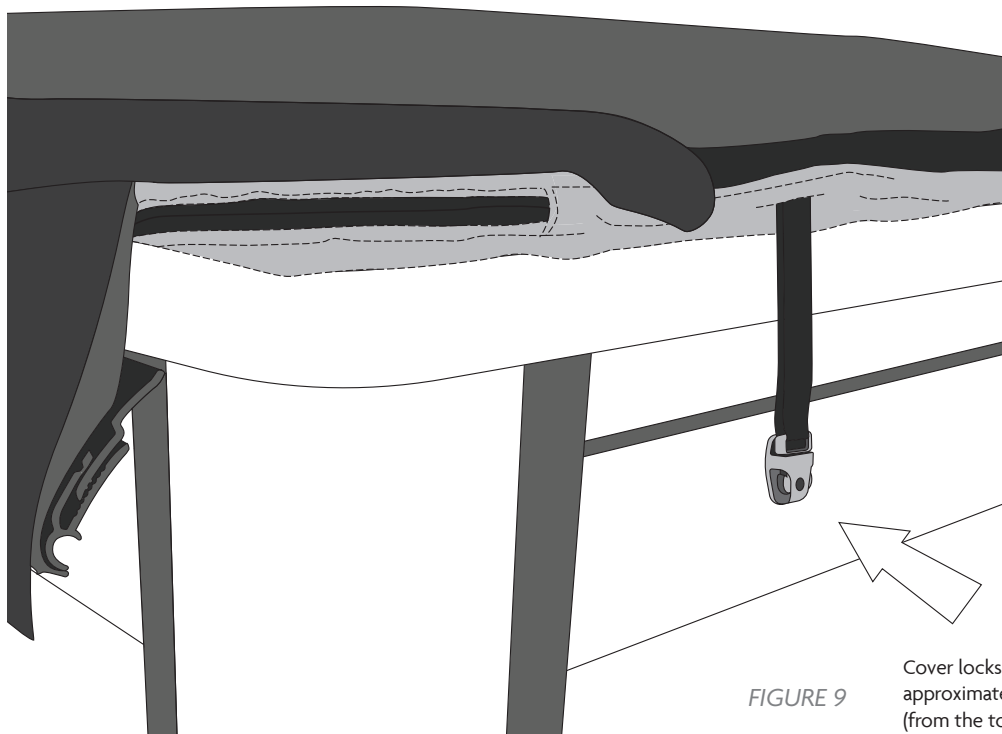

FIGURE 9
- 4. COVER LOCKS** Using provided #4x $\frac{3}{4}$ " Phillips Flat Head Screws (i), mount the cover locks located along the long sides of the Axis Cover to the swim spa skirting (Figure 8). These cover locks **MUST** be attached and secured when swim spa is not in use. Refer to cover lock system overview (Figure 9).